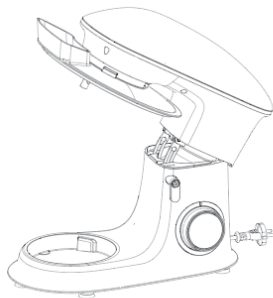

FIG2
2. Place the pot cover into its body. (FIG2)